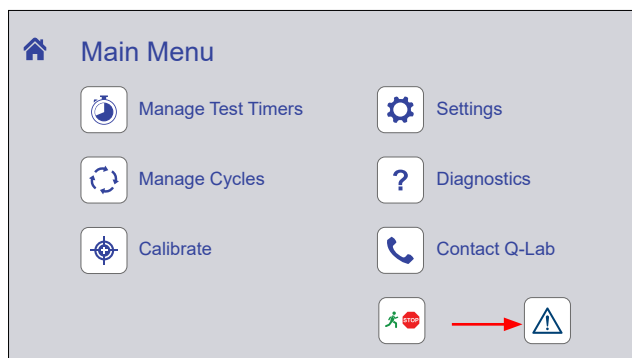

Figure 8.5a: The notifications icon. Icon color changes depending on notification status.
- On the Menu Display, touch the notification icon to display the Notifications Display (Figure 8.5a).